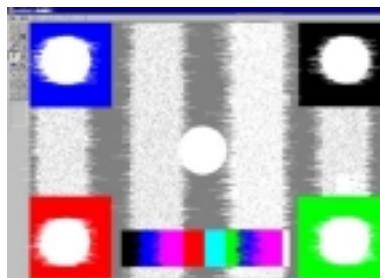
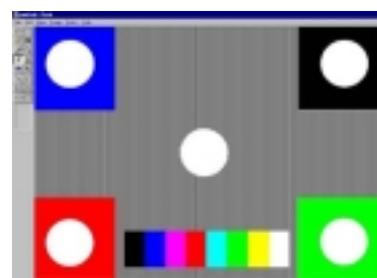

Fig 1
Fig 2
Step 5. If the vertical strip appear (Fig 1). Let the OSD menu appear, select "clock", then make the adjustment ("+" or "-") to let vertical strip disappear (Fig 2).